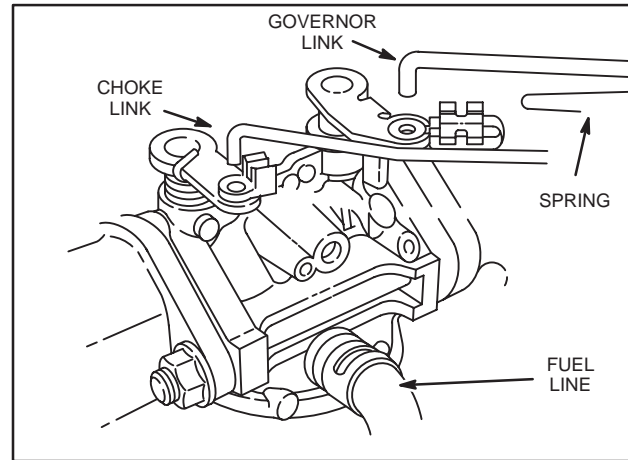

Fig. 1 – Remove Governor And Choke Link
1. Unhook governor link spring from throttle lever and disconnect governor link, Fig. 1.